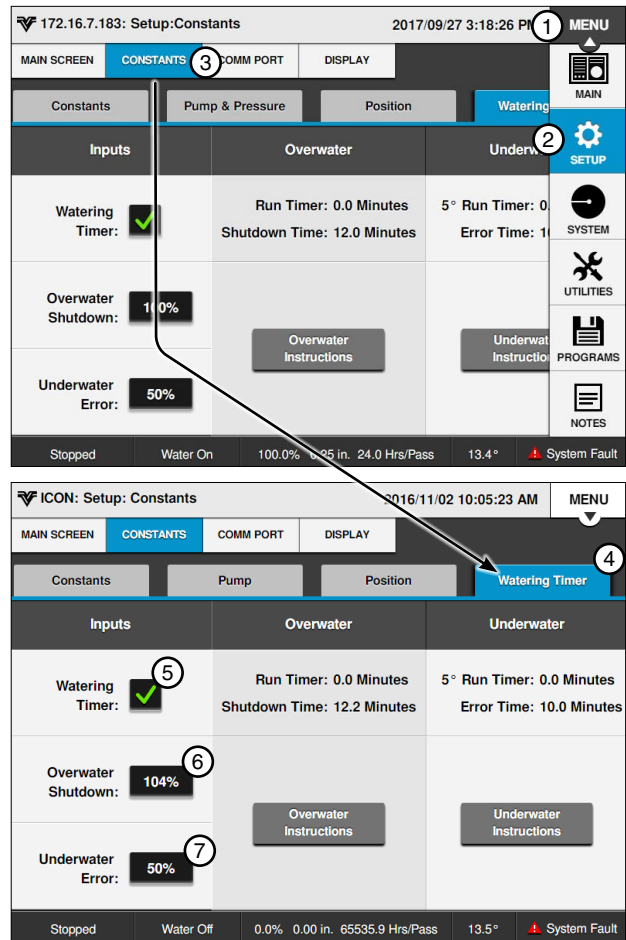

Figure 32-1 1. Menu 5. Watering Timer Checkbox
1. Push **Menu**, **Setup**, **Constants**, and **Watering Timer** to display the Watering Timer screen. Refer to Figure 32-1.
To view the status of the watering timers, push **Menu**, **Setup**, **Constants**, and **Watering Timer** to display the Watering Timer screen. Refer to Figure 32-1.